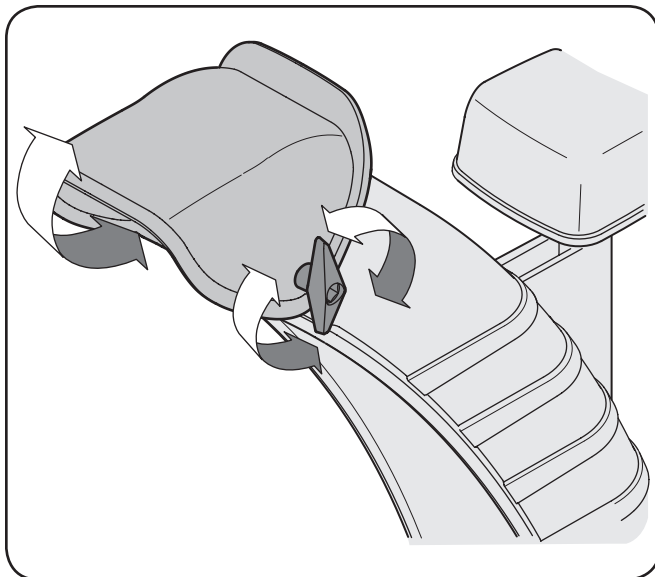

Figure 3-12
3. Pivot the chute upward or downward before retightening the wing knob. See Figure 3-12.